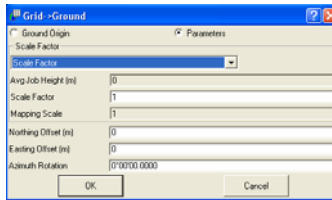

Figure 2-23. Creating Ground Projection Using Parameters Option
**Method One:** Rotation of the ground system is performed relative to the origin of the Grid coordinate system. Click and enable the **Parameters** radio button (Figure 2-23) and take the following steps:
- select **Scale Factor** from the drop-down list in the **Grid->Ground** dialog box (see Figure 2-23 on page 2-17) and enter the value of the Scale Factor. This value can be taken from the *Combined Grid to Ground Scale Factor* field of the *Points*